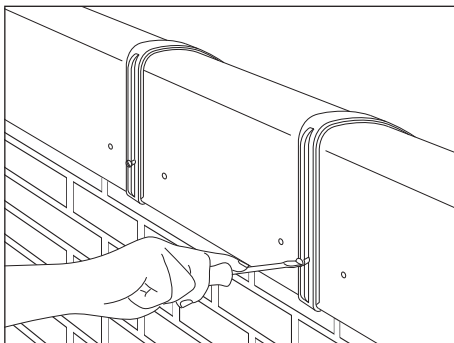

Fig. 14 – Mechanically fix mono-ridge union
- 7 Mechanically fix each mono-ridge union by using a 50mm x 10 gauge stainless steel screw (supplied with ridge tile) fixed to a timber fascia behind vertical leg (Fig. 14).